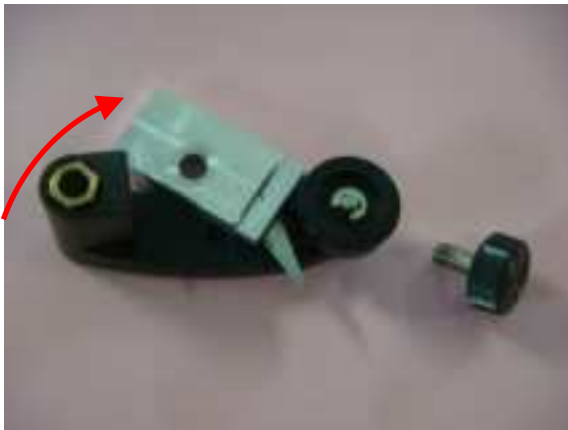

Figure 2-44
Step 6 Remove the screw from the Cut-off Unit (Figure 2-42 and 2-43) and disassemble the Cut-off Blade Fixer by pulling it up vertically (Figure 2-44).